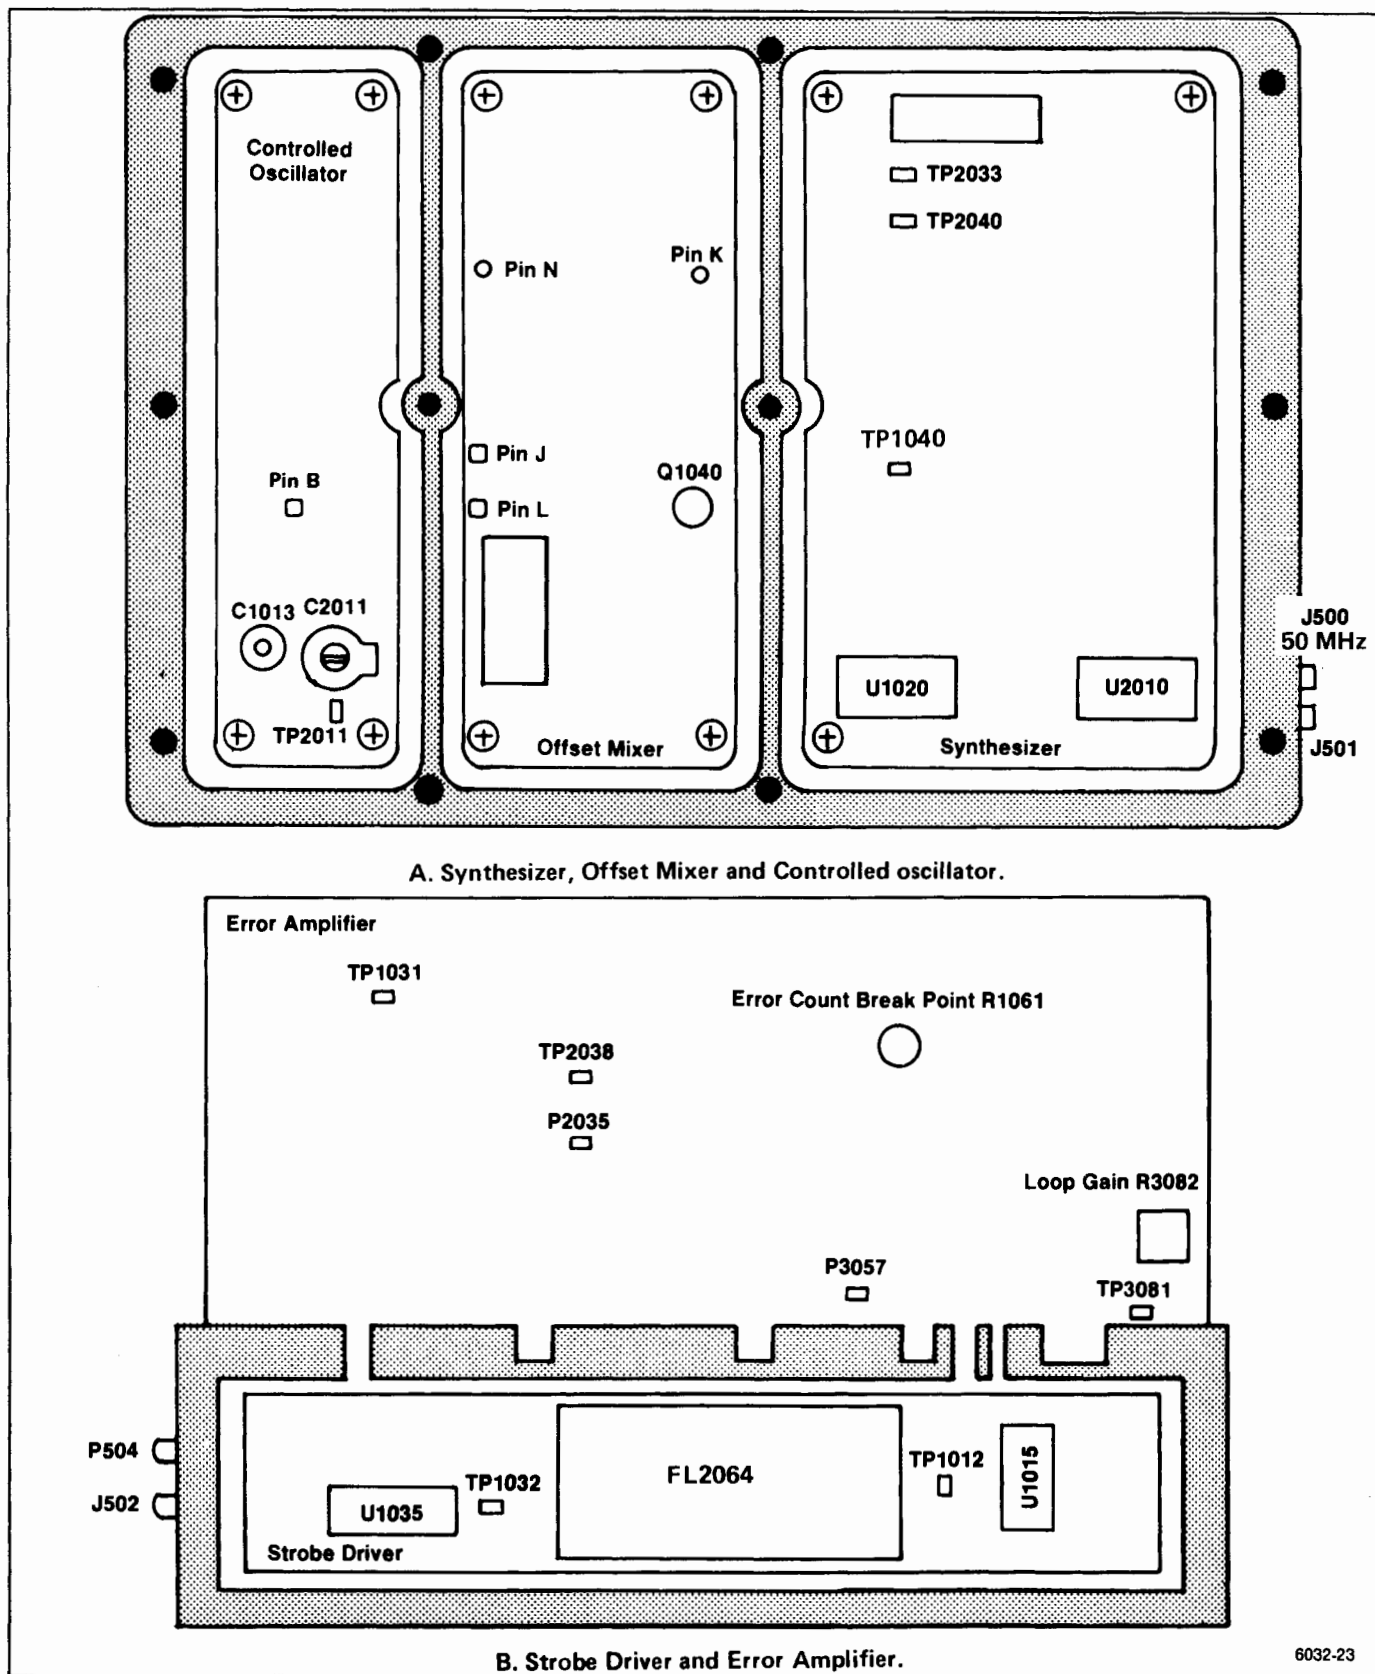

Figure 5-27. Phase Lock assembly adjustment and test point locations.
(1) Connect the Direct Input of the frequency counter to pin N (Figure 5-27) and set the counter controls for a count. Note the frequency.
(2) Connect the counter to pin K and note the frequency.
(3) Connect the counter to the collector of Q1040 and note the frequency. Frequency should equal the difference between pins N and K (e.g., $25.080 - 25.000 = 80$ kHz). Disconnect the counter probe from the collector of Q1040. (4) Connect a test oscilloscope probe to the collector of Q1040 and check for a signal with a frequency between 30 MHz and 94 MHz, 50% duty cycle, and an amplitude of approximately 5 V peak-to-peak.